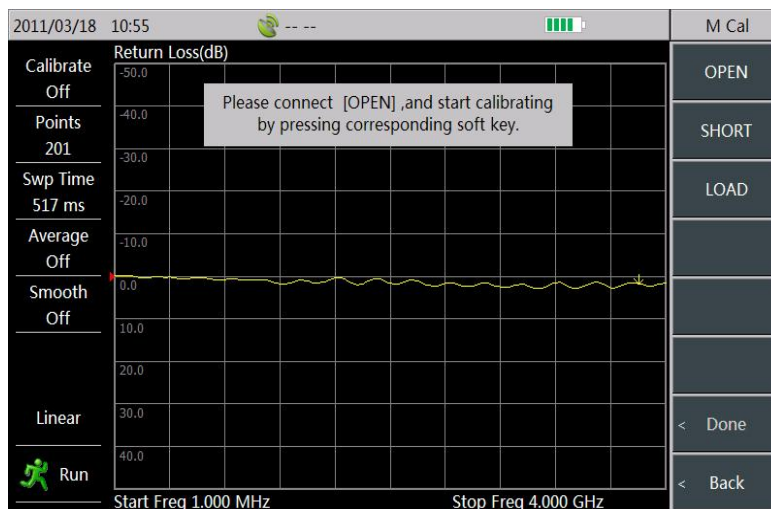

Figure 3-7 Measure Open Circuit/OPEN
- 3) Connect the open circuit to the calibration port, press [OPEN] key and then the prompt message saying “[OPEN] Measuring...” will be popped up on the display screen as shown in Figure 3-7: